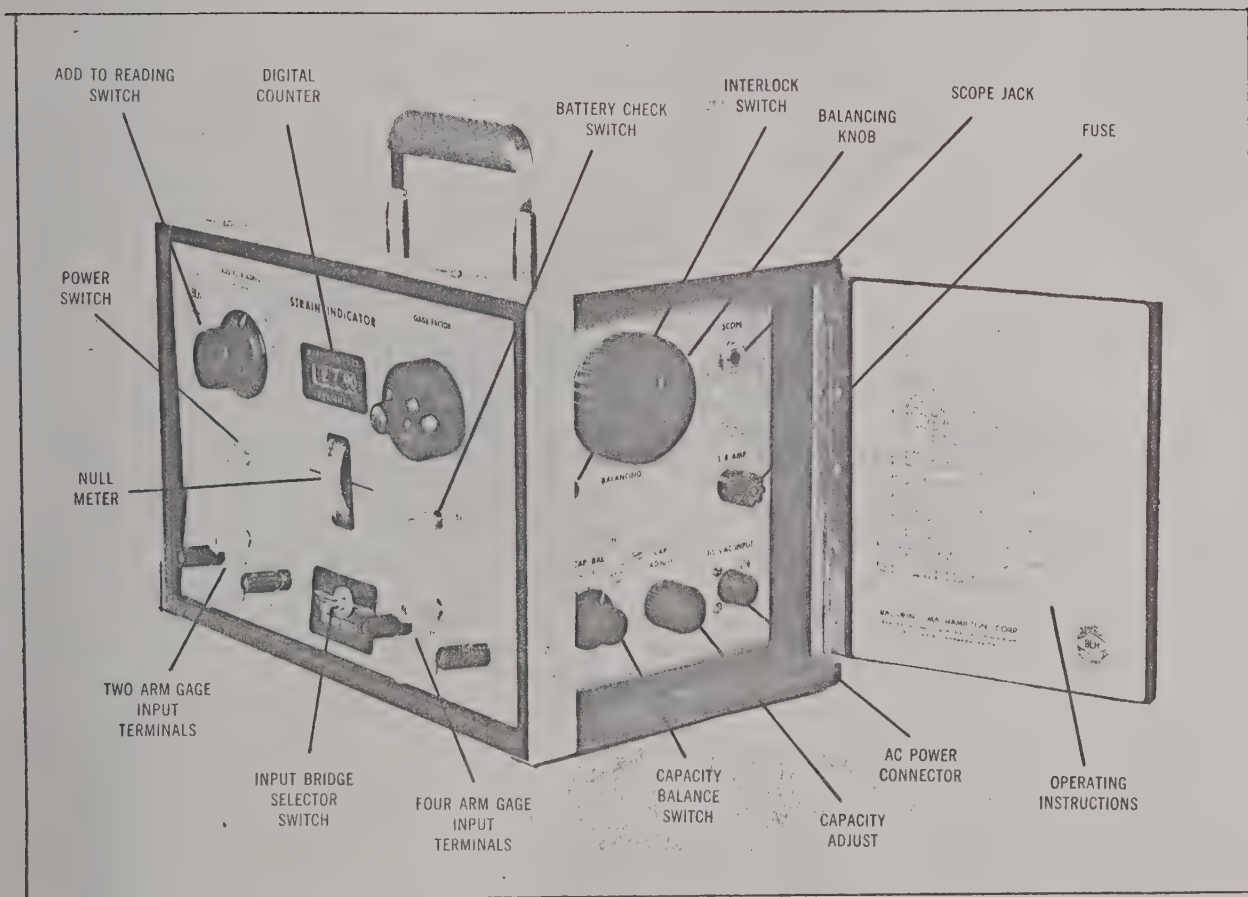

Figure 3. Strain Indicator, Operating Controls
3.1.1 A six foot power cable is included with the Indicator when the AC Power Pack is used. One end of the cable is connected to the 115 V AC connector (J1), located on the lower right of the right hand side of the instrument, see Figure 3, the other end of the cable is connected to a source of 115 V AC 60 cps power.
4.1 PRELIMINARY ADJUSTMENTS. In the following instructions, refer to figure 3, which illustrates the indicator operating controls. To operate the indicator, remove the top cover, open the right side door and perform the following steps: